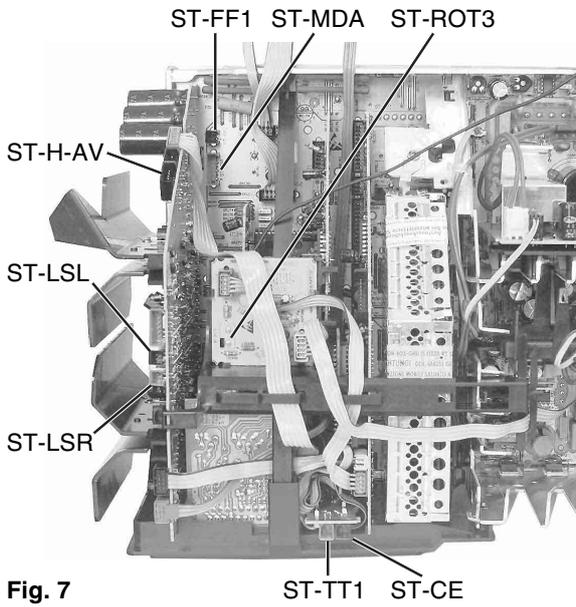

Fig. 7
- Chassis in die Führungsschienen einschieben, dabei alle Leitungsverbindungen (Fig. 7) wieder anstecken und die gelösten Kabelbinder ersetzen.
- When undoing the 6 screws of the rear panel hold the rear panel and move it carefully to the top until the ground connection to the ground strap of the picture tube and the subwoofer lead ST-TT1 (Fig. 7) can be detached.
- on the Dolby-Surround board ST-LSL, ST-LSR, ST-H-AV (Fig. 7),
- on the click-fit socket board ST-CE (Fig. 7),
- on the rotation board ST-ROT3 (Fig. 7), and
- on the chassis ST-MDA, ST-FF1 (Fig. 7).
- Slide the chassis into the guide rails. In doing this, re-establish all lead connections (Fig. 7) and replace the disengaged cable clamps.